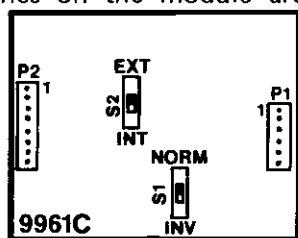

figure 2. Switch locations
3.03 No alignment of the 9961C subassembly is required. Before the subassembly is placed into service, however, two option switches must be set. Locations of these switches on the module are shown in figure 2.